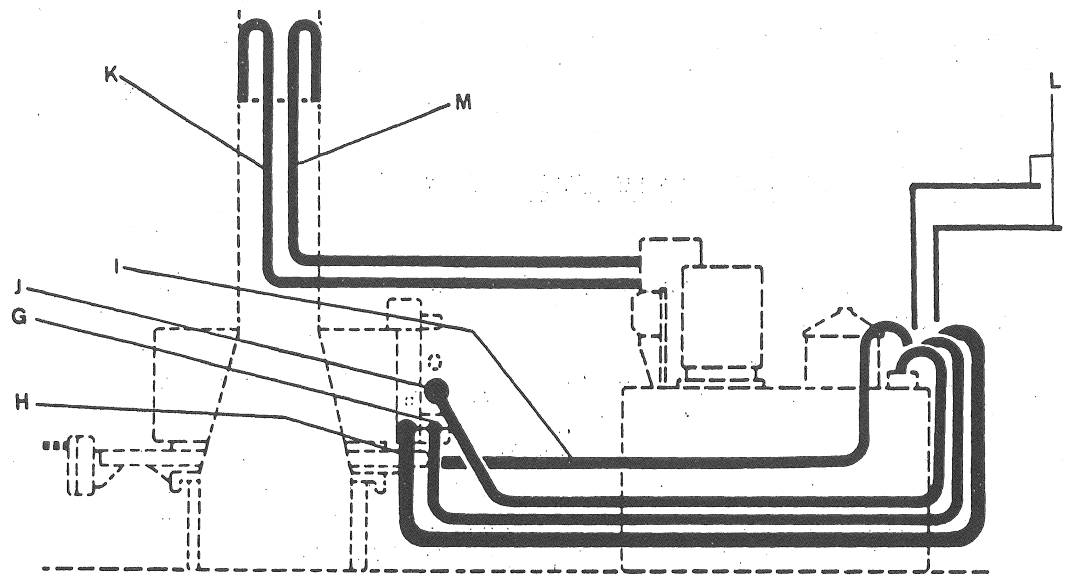

Fig 1
8.13 SAFETY DEVICES AND DEPTH STOP (fig. 1)